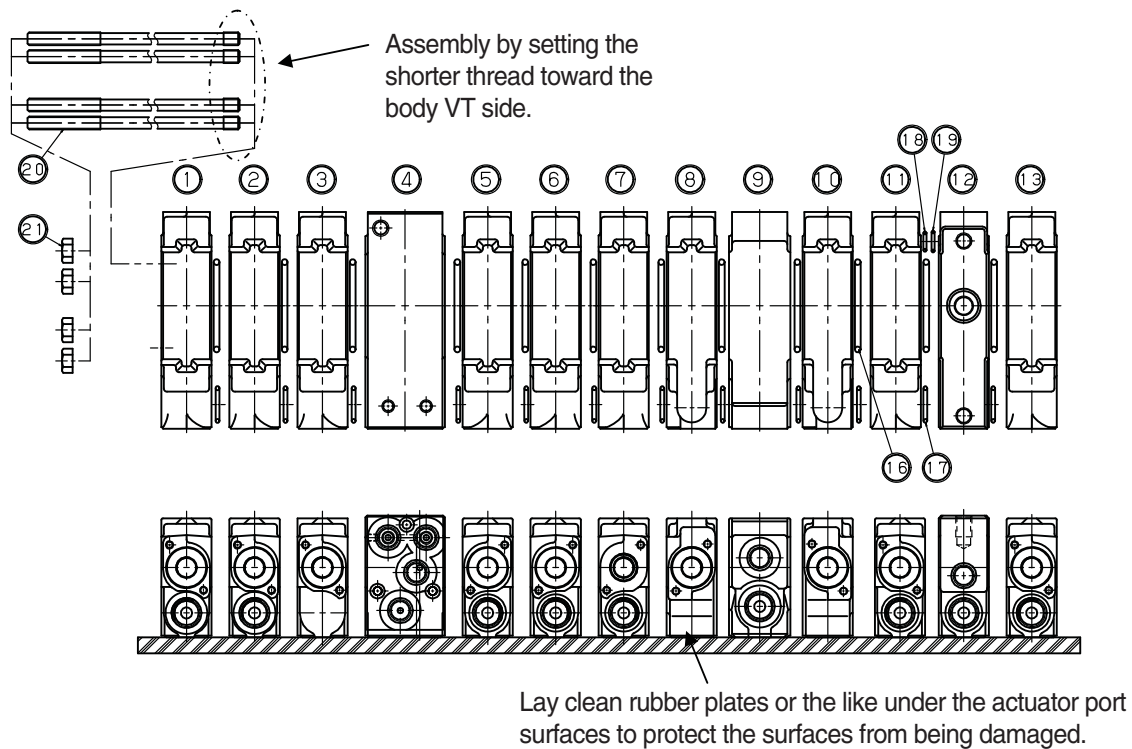

Fig.15 Body assy
(1) Assembling body work (see figure 15 and 16)
- ① On a surface plate with clean rubber plates on it, place component bodies with actuator port surface facing downward in the order shown in "Orders of assembling bodies" on the next page.
- ※ Check the matching surface in each component body for dust or the like, and check whether O-rings (⑬~⑭) shown in the specifications and drawings are surely put in each groove for O-ring. Kinked O-ring could cause the leakage of hydraulic fluid to the outside due to the malfunction of sealing performance.